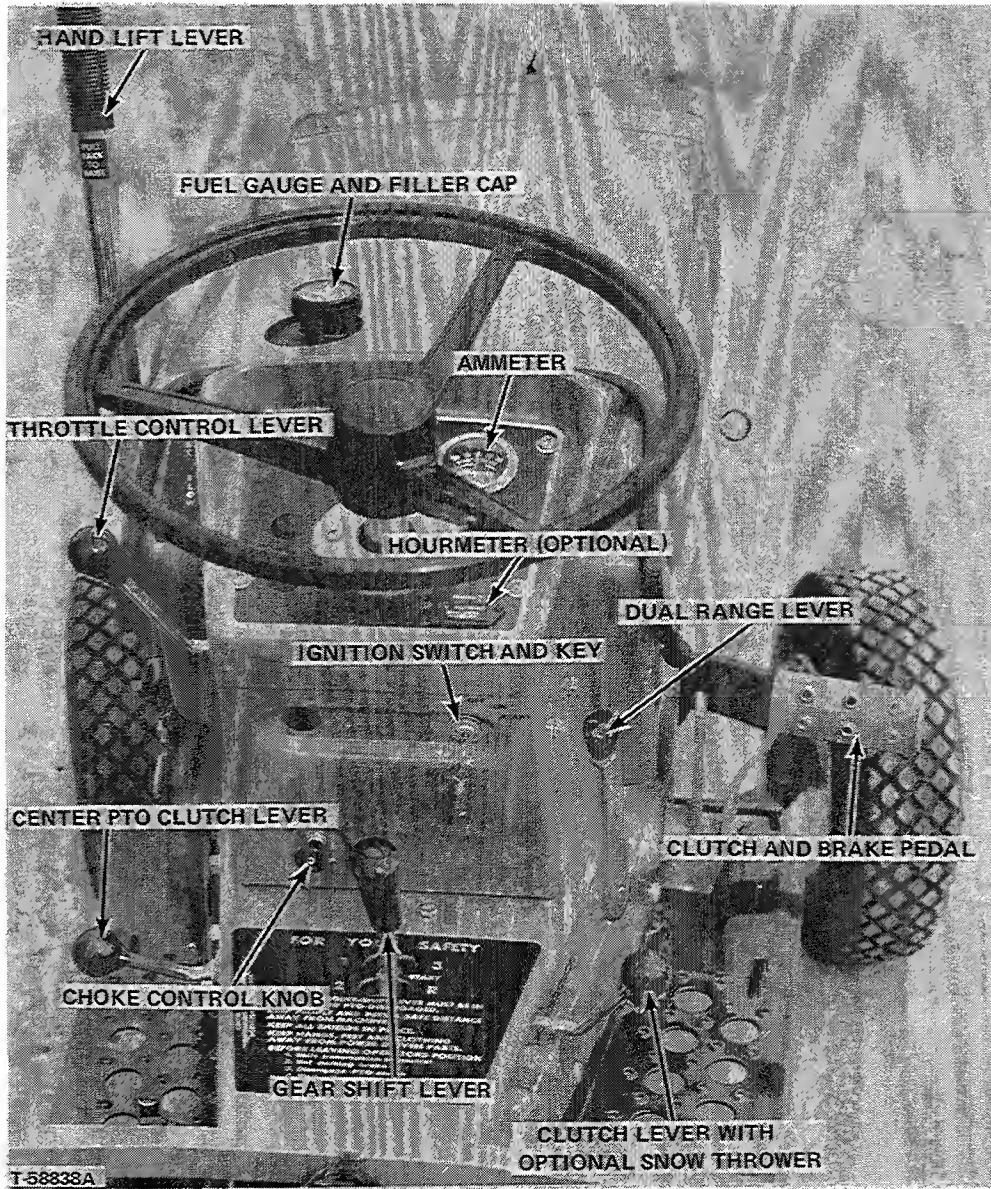

FIGURE 1 - Controls 6-Speed Transmission Tractor
1. IGNITION SWITCH AND KEY (Figure 1)
2. CHOKE CONTROL KNOB (Figure 1)
3. THROTTLE CONTROL LEVER (Figure 1)
4. CENTER PTO CLUTCH LEVER (Figure 1)
5. AMMETER (Figure 1)
6. FUEL GAUGE AND FILLER CAP (Figure 1)
7. CLUTCH AND BRAKE PEDAL (Figure 1)
GEAR SHIFT LEVER AND DUAL RANGE LEVER (Figure 1)
The gear shift pattern is shown on the tractor control panel (Figure 1). To shift transmission gears the tractor movement must be stopped and the clutch brake pedal must be fully depressed. The gear shift lever must be in the center of the natural position for engine starter to operate.